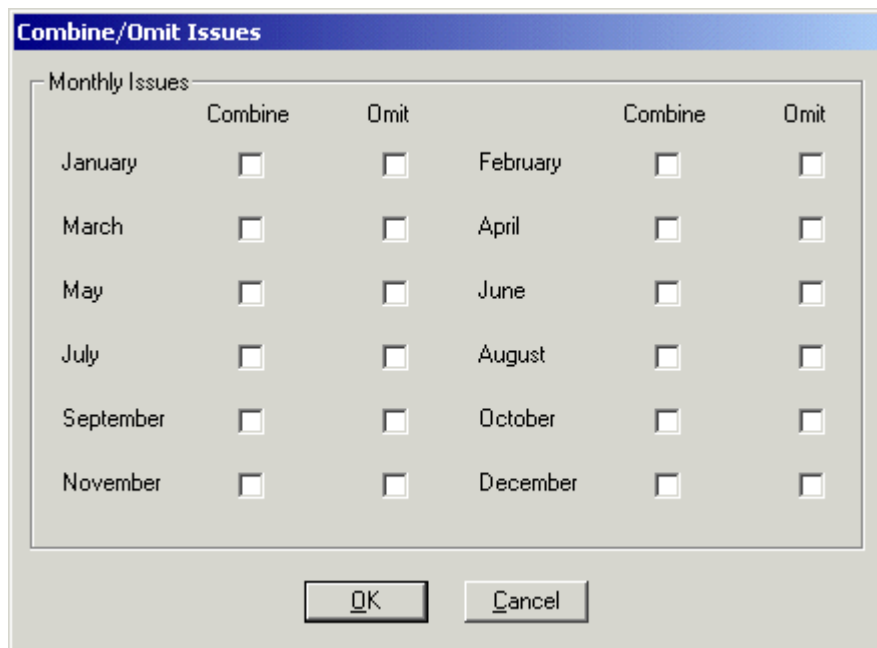

Figure 8-7. The Combine/Omit Issues dialog box
6. Click the **Combine/Omit** button from the **Start Prediction** dialog box to display the **Combine/Omit Issues** dialog box (see Figure 8-7).